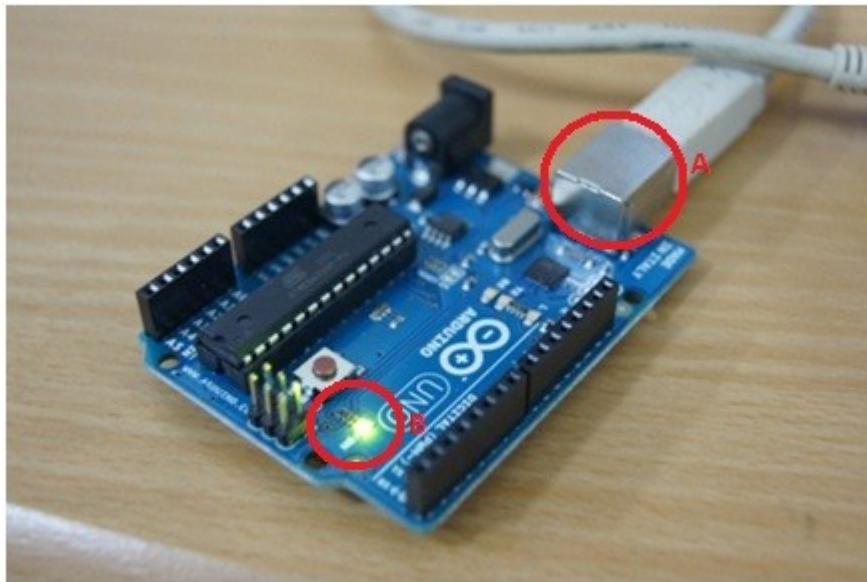

Figure 4: Photo of Arduino Uno board connected to a Computer. Note that the board's USB-B port.
1. Connect the Arduino UNO to the computer via USB Cable (A on fig. 4) [2]. Check if it is properly connected by observing the green LED labeled ON (B on fig. 4) on the board.